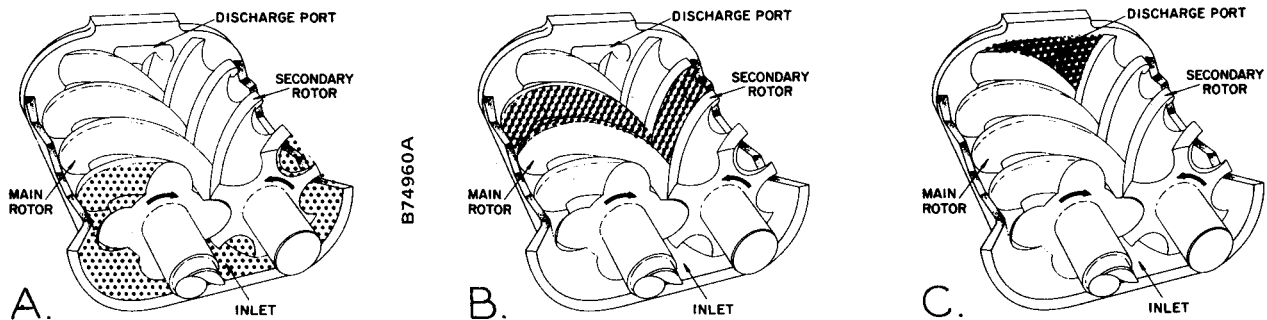

FIGURE 1-1. — COMPRESSION CYCLE
COMPRESSION PRINCIPLE (Figure 1-1) — Compression is accomplished by the main and secondary rotors synchronously meshing in a one-piece cylinder. The main rotor has four (4) helical lobes 90° apart. The secondary rotor has six (6) matching helical grooves 60° apart to allow meshing with main rotor lobes.
The air inlet port is located on top of the compressor near the center. The discharge port is near the bottom at the opposite end of the compressor cylinder. *Figure 1-1 is an inverted view to show inlet and discharge ports.* The compression cycle begins as rotors unmesh at the inlet port and air is drawn into the cavity between the main rotor lobes and secondary rotor grooves (A). When the rotors pass the inlet port cutoff, air is trapped in the interlobe cavity and flows axially with the meshing rotors (B). As the meshing continues, more of the main rotor lobe enters the secondary rotor groove, normal volume is reduced and pressure increases. Oil is injected into the cylinder to remove the heat of compression and seal internal clearances. Volume reduction and pressure increase continues until the air/oil mixture trapped in the interlobe cavity by the rotors passes